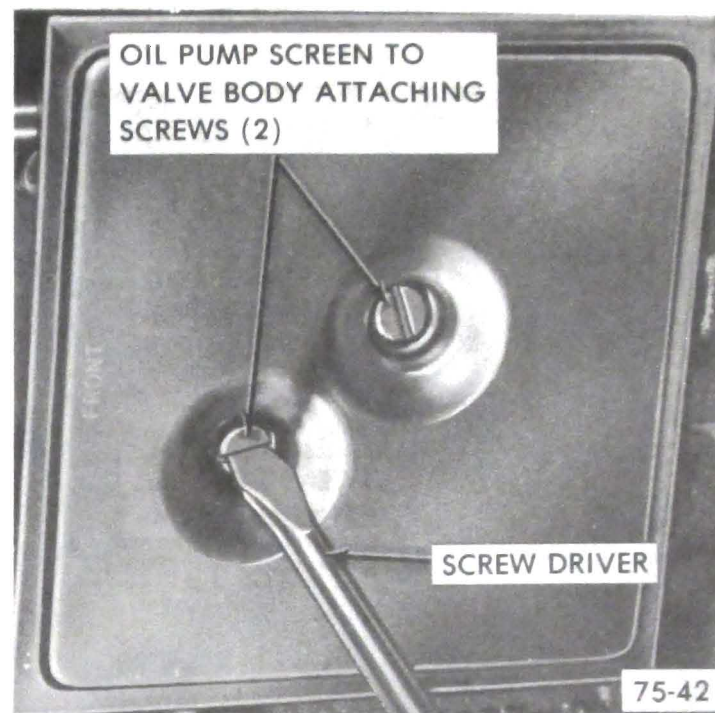

Figure 75-60
1. Remove two (2) strainer assembly to valve body attaching screws. See Figure 75-60.